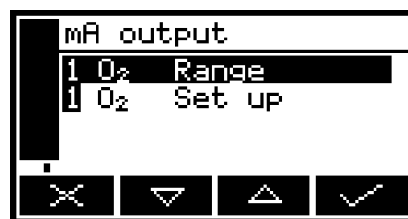

Figure 17 – The mA configuration screen (one measurement instrument)
4. Return to the mA configuration screen (Figure 17) and select 'Set up' option.